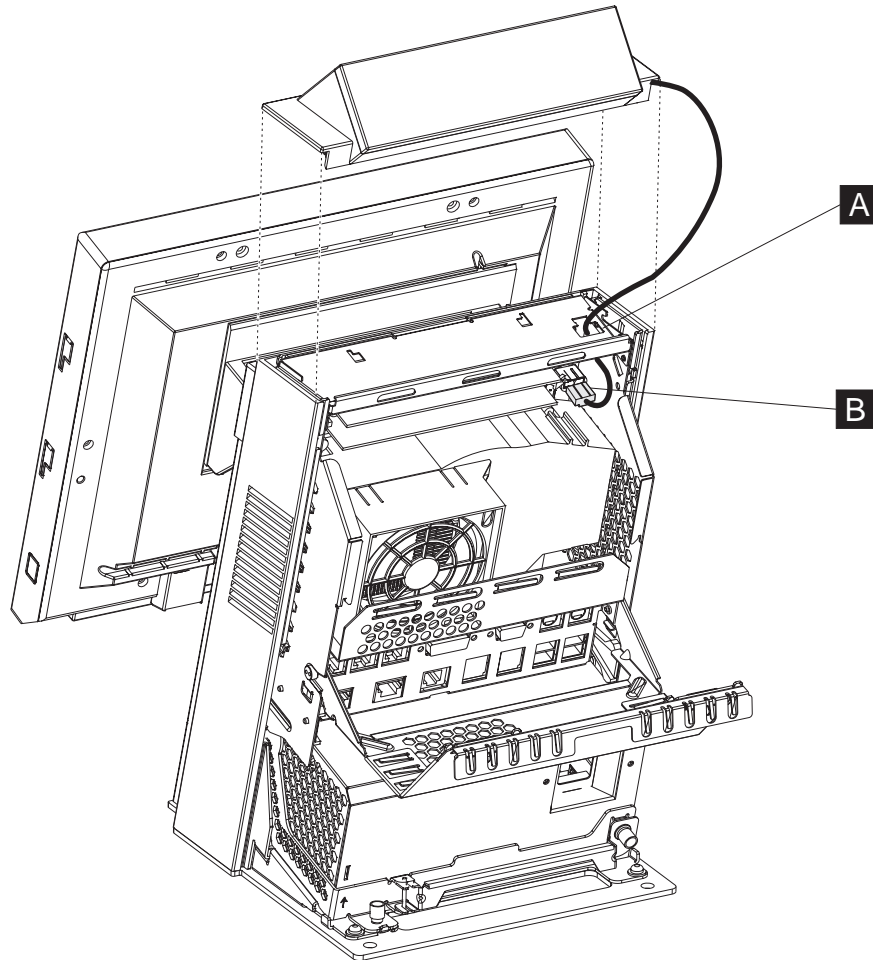

Figure 23. Installing and connecting the integrated display
6. Snap the new integrated display in place, after routing the cable through the hole (**A** in Figure 23) in the top of the unit.